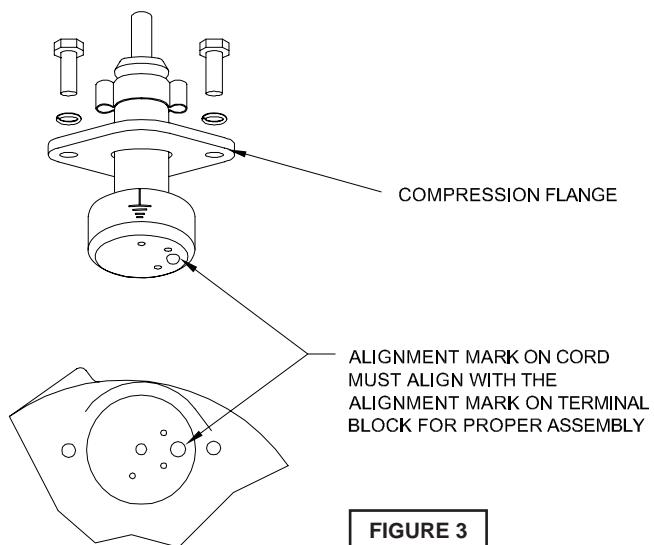

FIGURE 3
**Power/Control Cord** - Insert female end of cord plug into housing bore aligning alignment mark with hole in terminal block see Figure 3. Tighten bolts on compression flange until flush with motor housing.